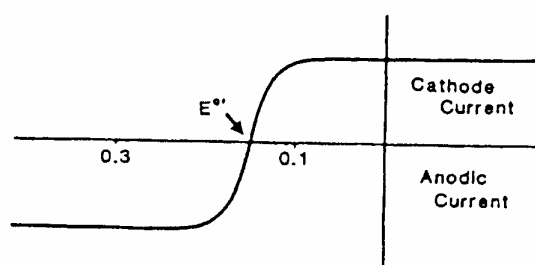

Figure A3-2: A Typical HDV
The optimal potential for a particular analyte can be determined by measuring the oxidative current (at a constant concentration) over a range of working electrode potentials. A plot of the signal generated (peak height or area) as a function of the applied potential is termed an *hydrodynamic voltammogram* (HDV) or current/voltage (CV) curve. A typical HDV is shown in Figure A3-2.
Visual inspection of an HDV indicates the potential at which the oxidative current (or signal) is maximal (E_{\max}). In **Figure A3-2**, E_{\max} for oxidation is approximately 200 mV. The potential used for a particular analyte is an important issue. If the potential is too low, sensitivity will be compromised. If the potential is too high, other species may also be oxidized and interfere with the analyte of interest. The optimal potential is typically 20 mV above E_{\max} .